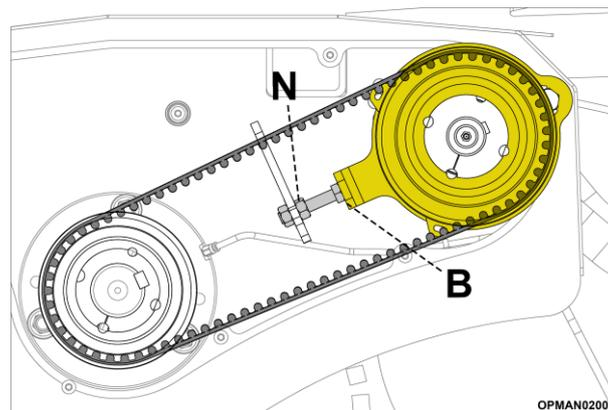

Figure 5.17
- 5.7.2.2 With reference to Figure 5.17, sufficiently loosen the locking nut (N).